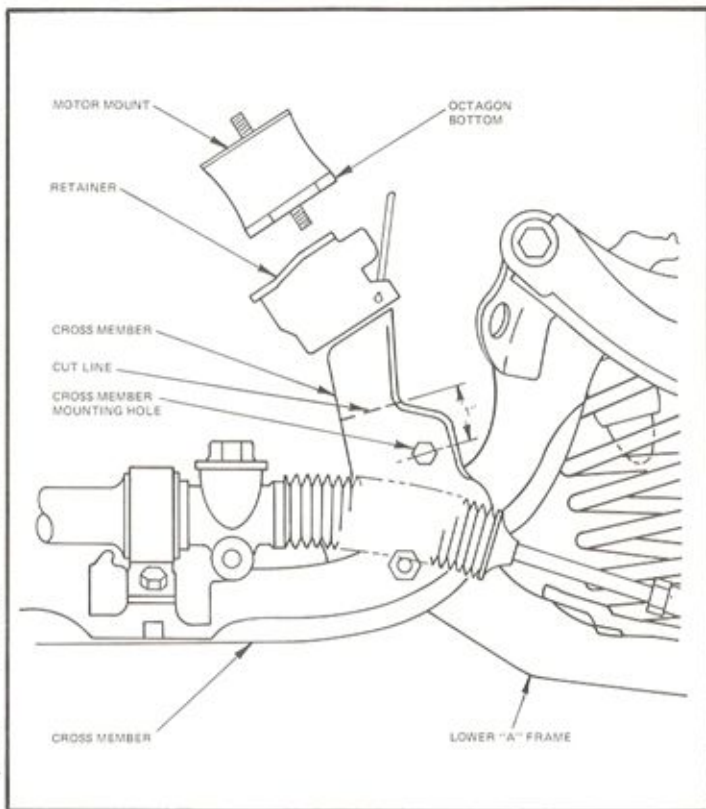

Figure 15
- Insert long factory bolts into hole below cut section of cross member (Figure 15) Secure with factory nuts. Finger tighten.